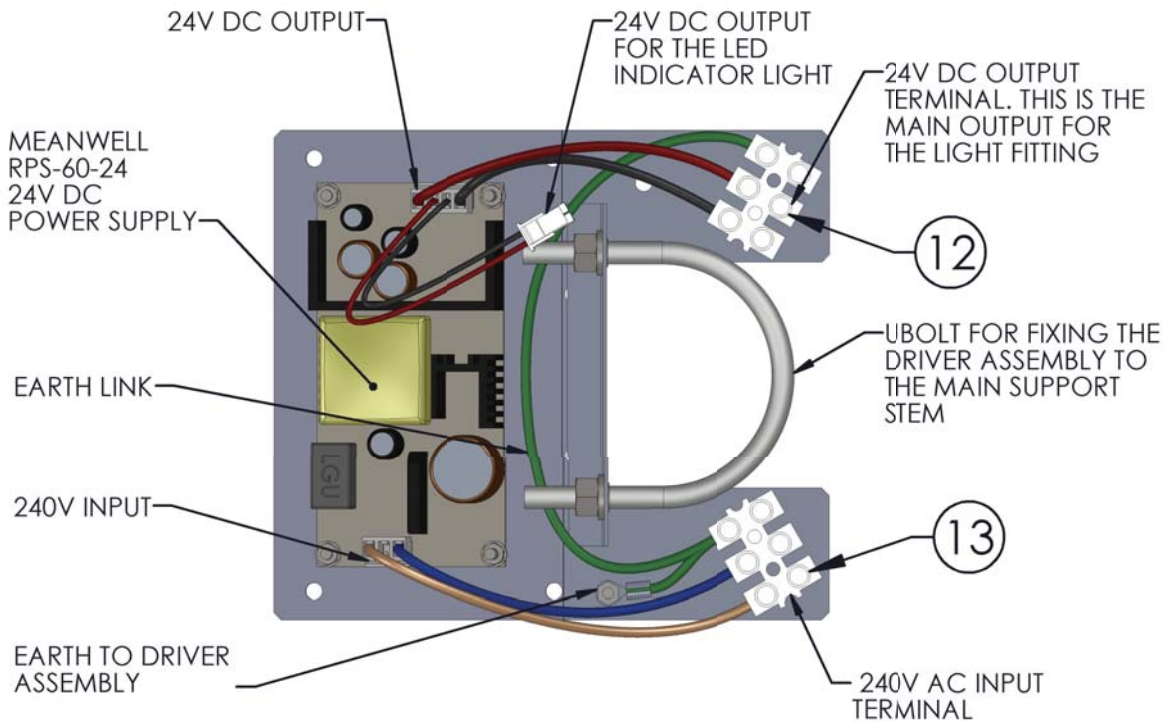

Fig. 11.0
12. Connect the 24v power feed, and earth for the light fitting into the terminal, shown in Fig. 11.0
13. Connect the 240v AC input, and earth into the terminal, as shown in Fig. 11.0.